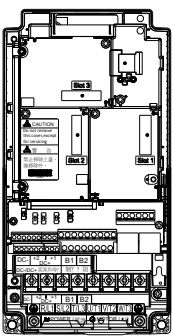
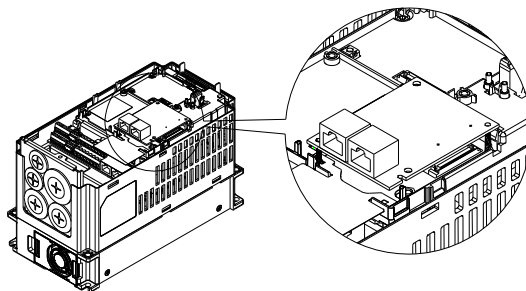

Figure1
Figure 2
- Place the insulation spacer into the positioning pin at Slot 1 (see Figure 1) and aim the two holes on the PCB at the positioning pin. Press the pin to clip the holes with the PCB (see Figure 2).